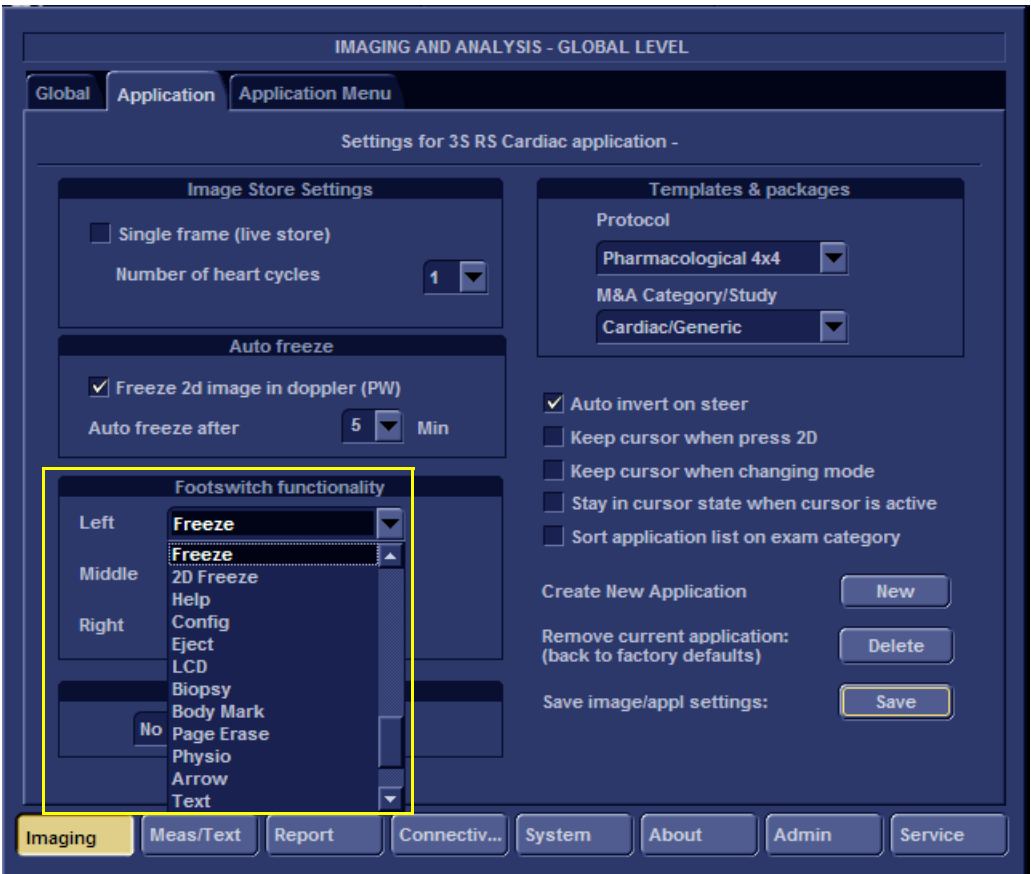

Figure 3-32 Foot Switch Functionality Settings
- 3.) Using the **Footswitch Functionality** drop-down menus, select the required functionality for the **Left**, **Middle** and/or **Right** Foot Switch - see the example in Figure 3-32.